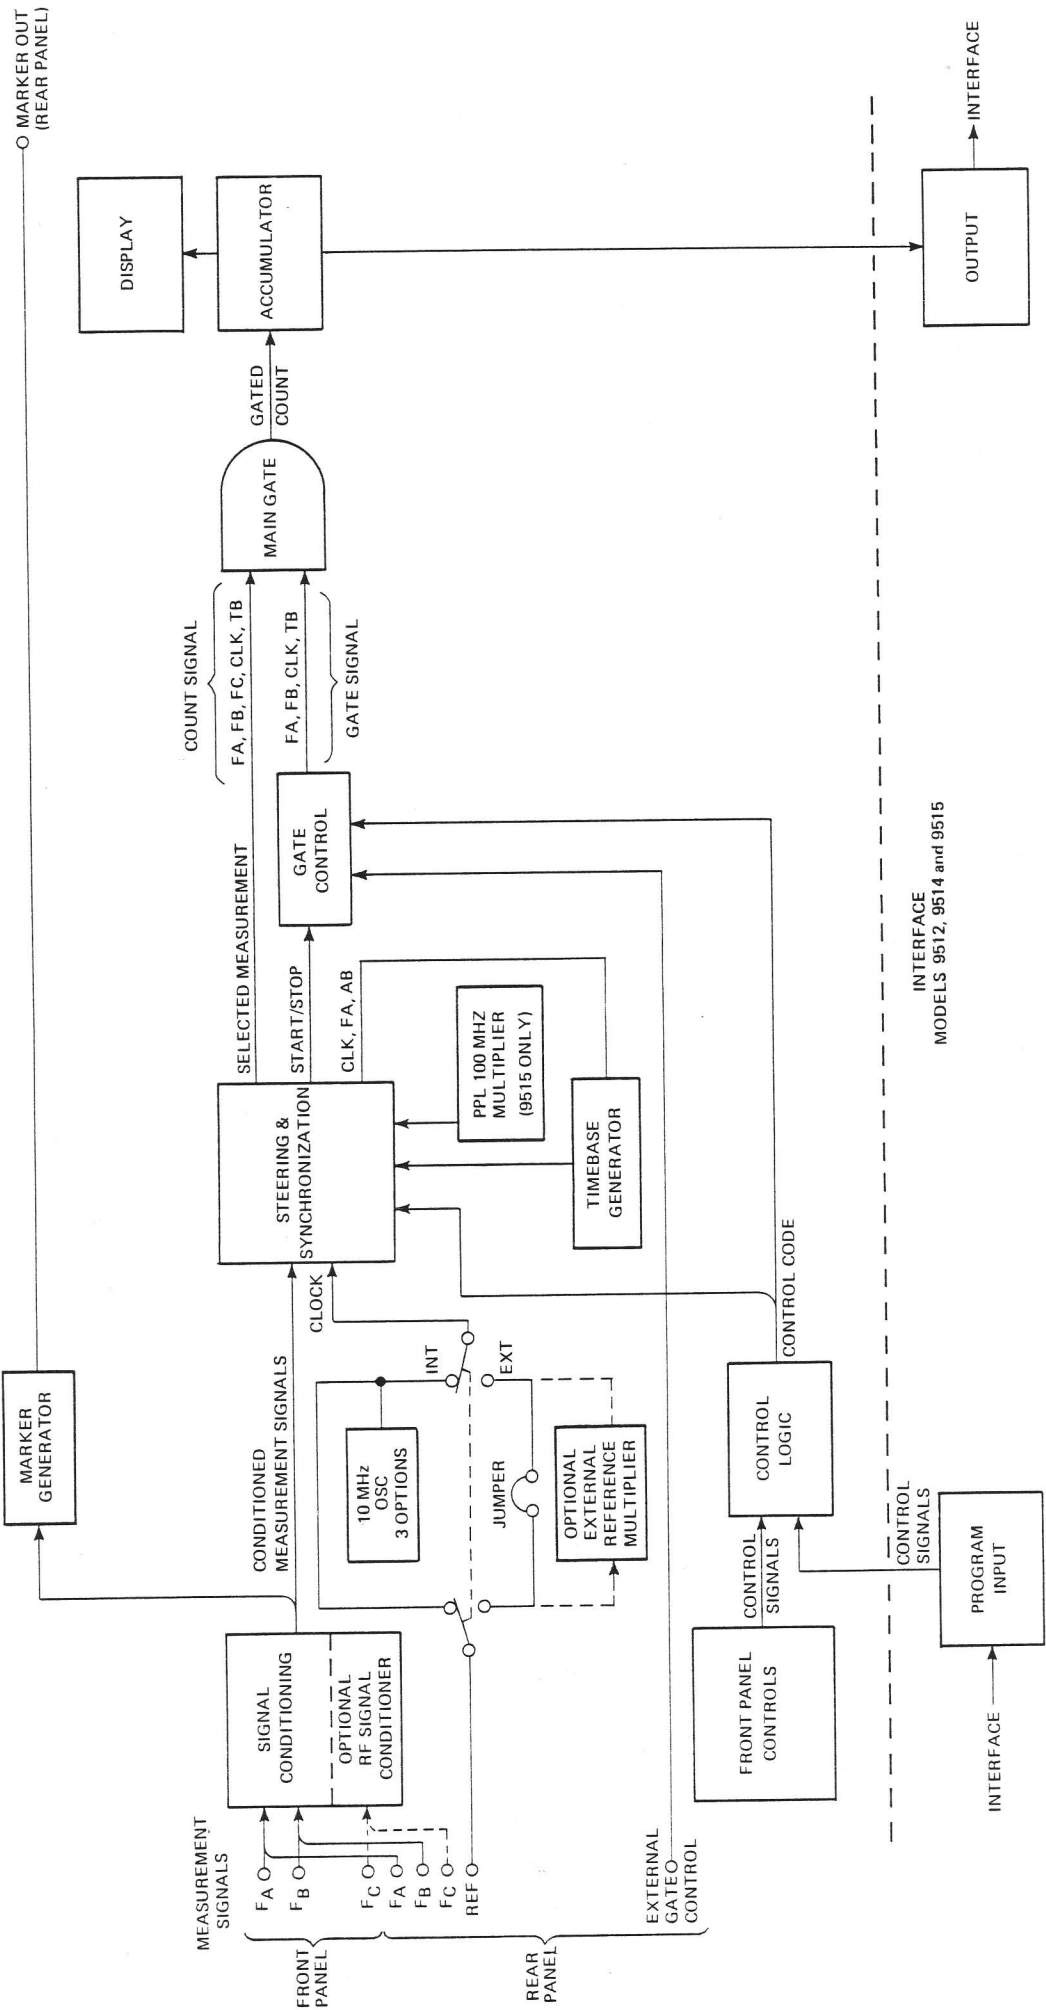

Figure 1.1 - Functional Block Diagram
1.5.1 A simplified block diagram of the Series 9500 Universal Counter-Timer is shown in Figure 1.1. Note that the diagram shows the interface circuits contained in the Models 9512, 9514 and 9515. The basic difference between the 9510 and 9512 and the other instruments is the GPIB interface capability and microprocessor-controller auto trigger feature. For simplicity, the block diagram shows the relationship of the instrument measurement circuits to the interface circuits. The phase-locked-loop frequency multiplier feature of the 9515 increases the resolution using 100 MHz reference signal.